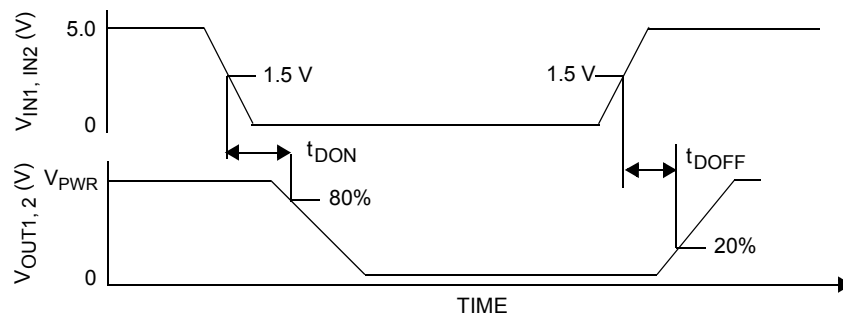

Figure 4. Output Delay Time
22. * Output Delay is the time duration from 1.5 V on the IN1 or IN2 input signal to the 20% or 80% point (dependent on the transition direction) of the OUT1 or OUT2 signal. If the output is transitioning HIGH-to-LOW, the delay is from 1.5 V on the input signal to the 80% point of the output response signal. If the output is transitioning LOW-to-HIGH, the delay is from 1.5 V on the input signal to the 20% point of the output response signal. See Figure 4, page 10.